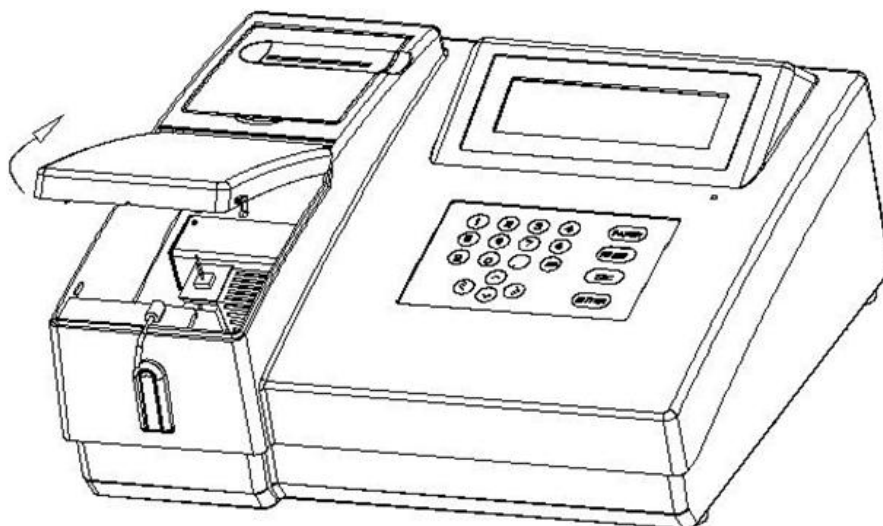

Fig. 1-5 Opening of the cell cover
- 1) Open the flow cell cover as shown in Fig. 1-5.